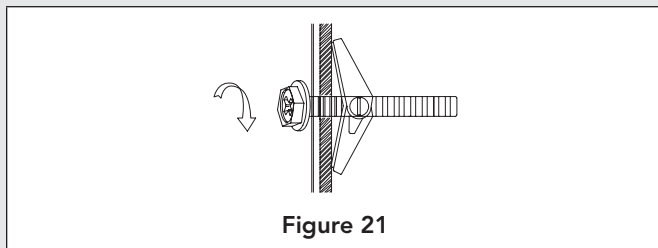

Figure 21
- Next, secure mounting plate to the wall by tightening toggle bolt assemblies or lag screw(s). See Figure 21.